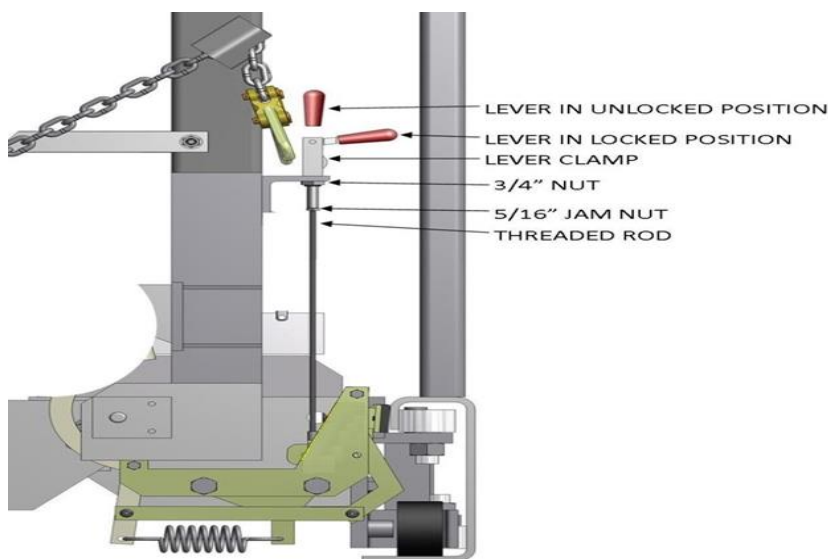

FIGURE 6-4
- iv) Adjust the manual brake per the procedure below to adequately lock the gangway in place while stored in the upright position. **FIGURE 6-4** identifies the following manual brake sub-assembly components noted in the procedure:
- v) Use **FIGURE 6-4** below as a guide while performing the following steps to adjust the manual brake:
- 5) If the brake engagement is insufficient or if the lever is still too tight, repeat steps (1) thru (4) to achieve the desired results.